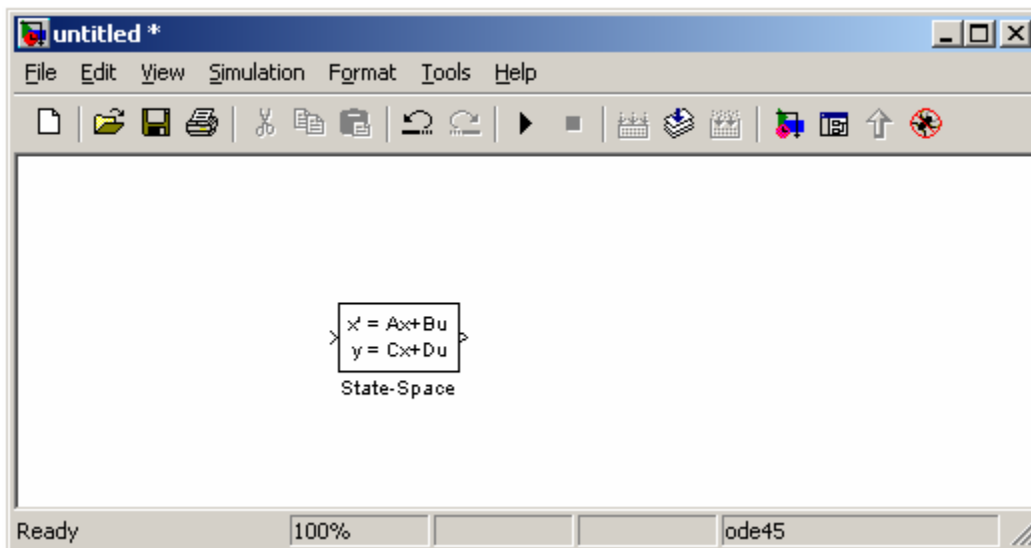

Figure 3: Simulink model with just state space block added
6. Click on the “State-Space” block and drag this into your blank model. Your model should now look like Figure 3.